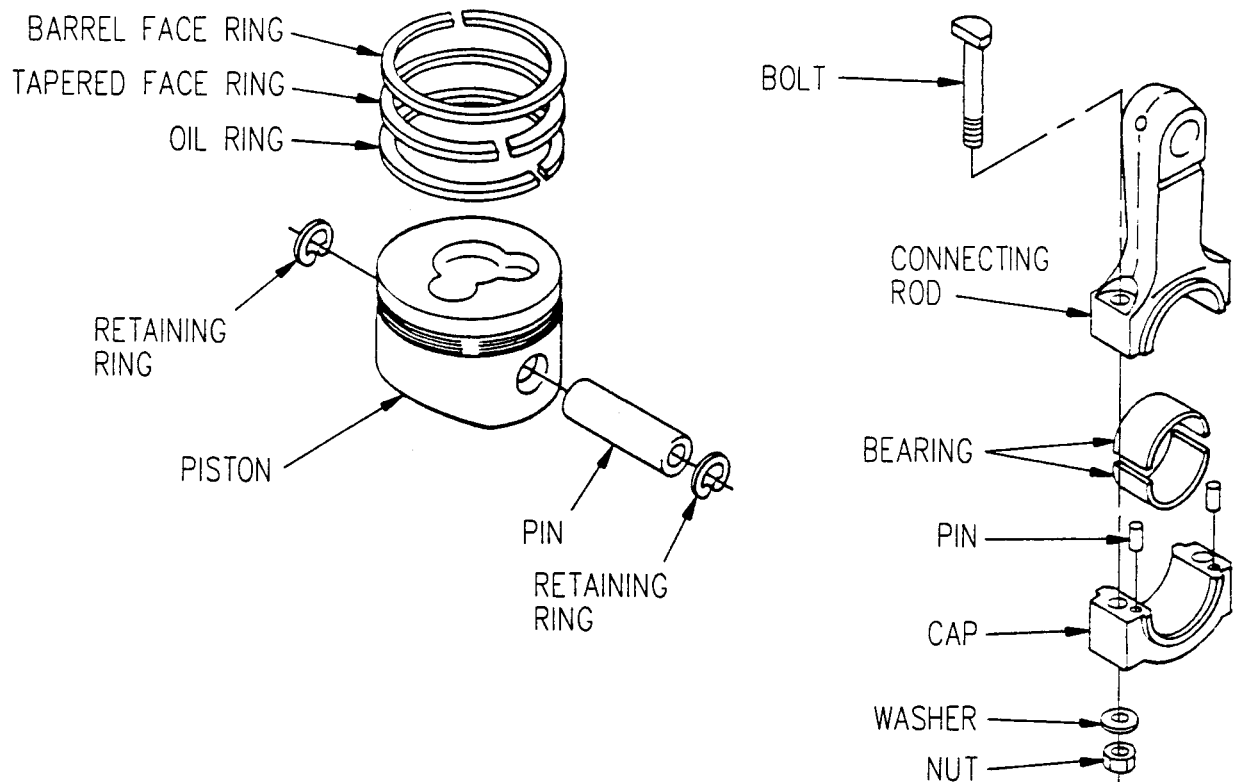
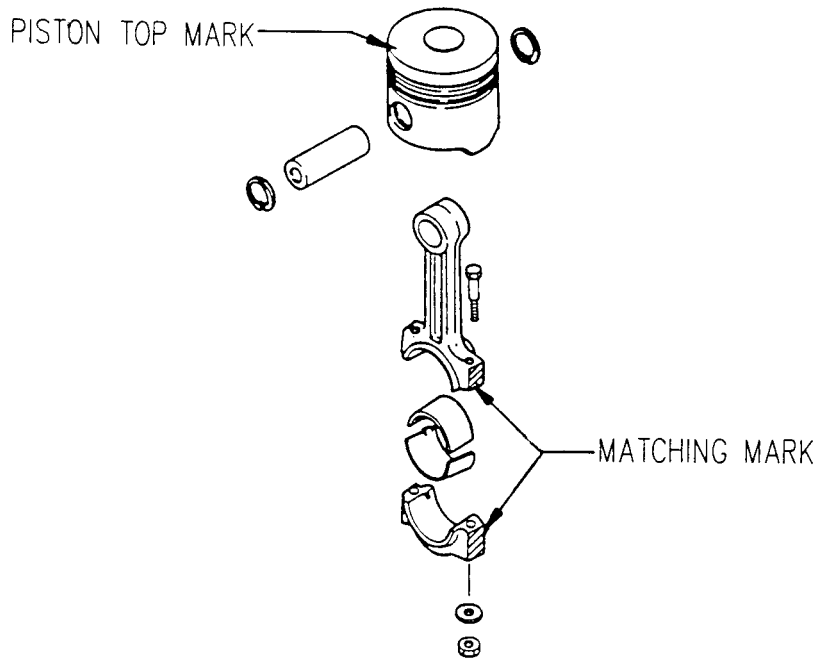

Figure 5-22. Piston and Connecting Rod Assembly
Figure 5-28. Installing Piston on Connecting Rod
- (3) Remove nuts (Figure 5-22), washers, and cap from connecting rod.
- (4) Rotate crankshaft to top of stroke, and pull piston and connecting rod out top of cylinder block.
- (1) Remove bolts (Figure 5-22) from connecting rod.
- (1) If removed, install pins (Figure 5-22) in cap.
- (2) Remove bolts from connecting rod.
- (3) Heat piston in oil to 158-176°F (70-80°C) and install on connecting rod with pin (Figure 5-28 for positioning).
- (4) Install retaining rings in piston.
- (1) Apply lubricating oil (Item 14, Appendix E) to crank pin, outer surface of piston, and inner surface of sleeve. Using piston inserting tool, insert piston (Figure 5-22) and connecting rod into cylinder with top mark on piston facing crankcase cover side of engine.